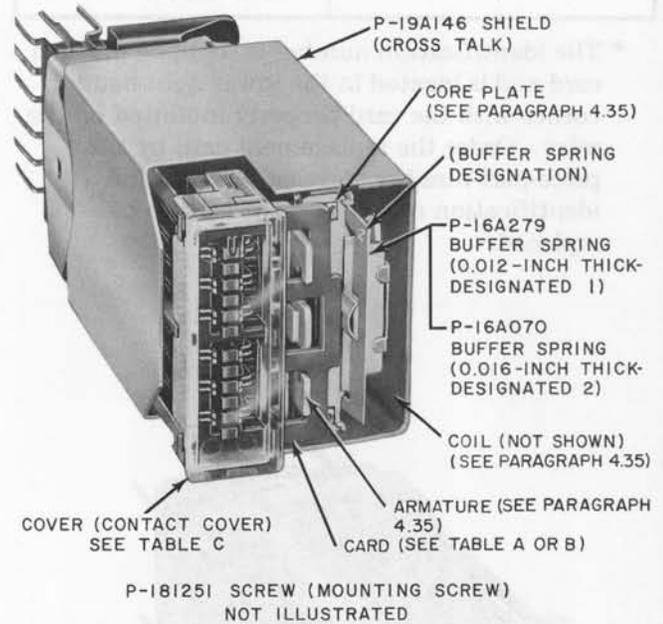

Fig. 1—12-Position Relay—General View
- (3) To change Fig. 1 and 2
- (4) To delete Tables D and E
(5) To delete paragraph 1.07
(6) To change paragraph 1.04.
2.01 Figures 1 and 2 included in this part show the various piece parts in their proper relation to other parts of the relay. The piece-part numbers of the various parts are given together with the names of the parts as listed by the Western Electric Company Merchandise Department. When these names differ from those in general use in the field, the latter names in some cases are shown in parentheses.